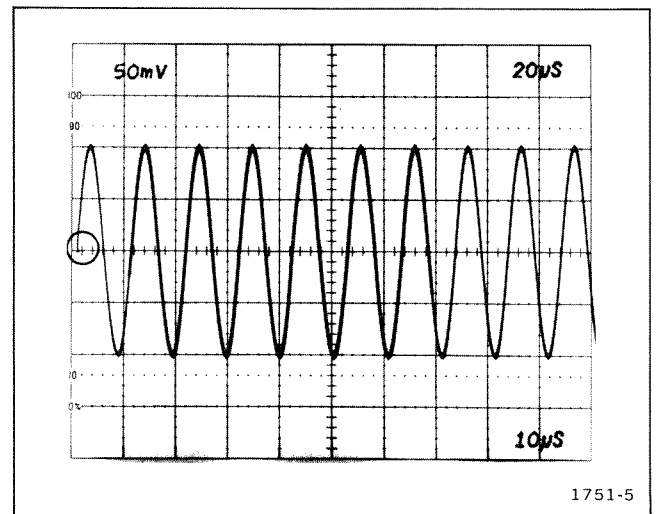

Figure 4-5. Dc balance.
c. Adjust Int DC Bal R25 to trigger sweep at graticule horizontal center line. (See Figure 4-5.)